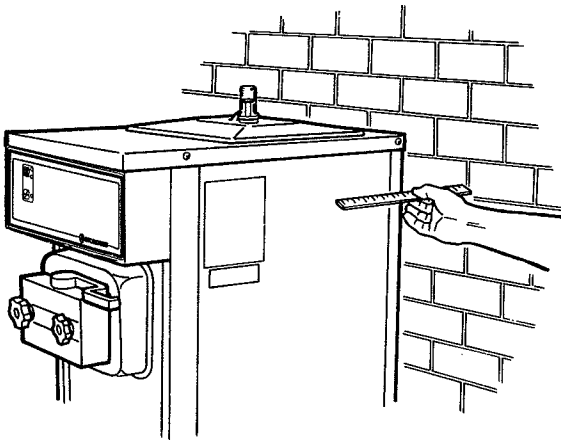

Figure 1. Space and Ventilation Requirements
- A. **Space and Ventilation Requirements.** The freezer requires adequate ventilation. A minimum of six inches (15 cm) of vent space is required for free flow of cooling air (Fig. 1). The floor model shown in Figure 1 requires vent space at the front and back. The counter model requires vent space at the rear and both sides.